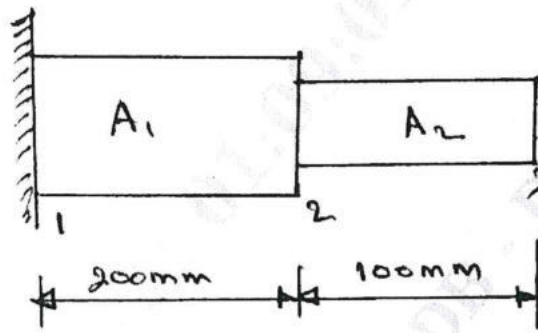

Fig.Q10
- 10 Evaluate eigen vectors and eigen values for the stepped bar shown in Fig.Q10. Take $E = 200 \text{ GPa}$ specific weight 7850 kg/m^3 . Draw mode shapes. Take $A_1 = 400 \text{ mm}^2$ and $A_2 = 200 \text{ mm}^2$.